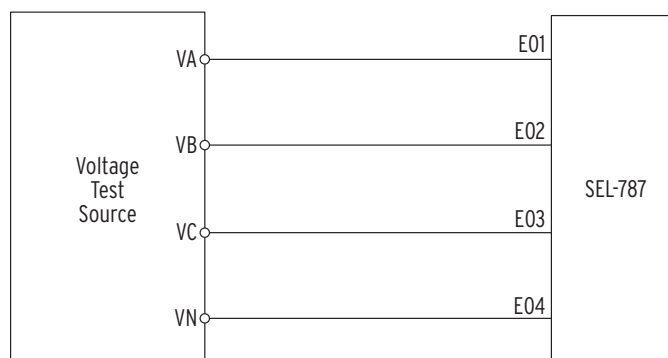

Figure 10.6 Wye Voltage Source Connections
- Step 2. Connect the voltage source to the relay, as shown in *Figure 10.6*. Make sure that DELTA_Y := WYE.